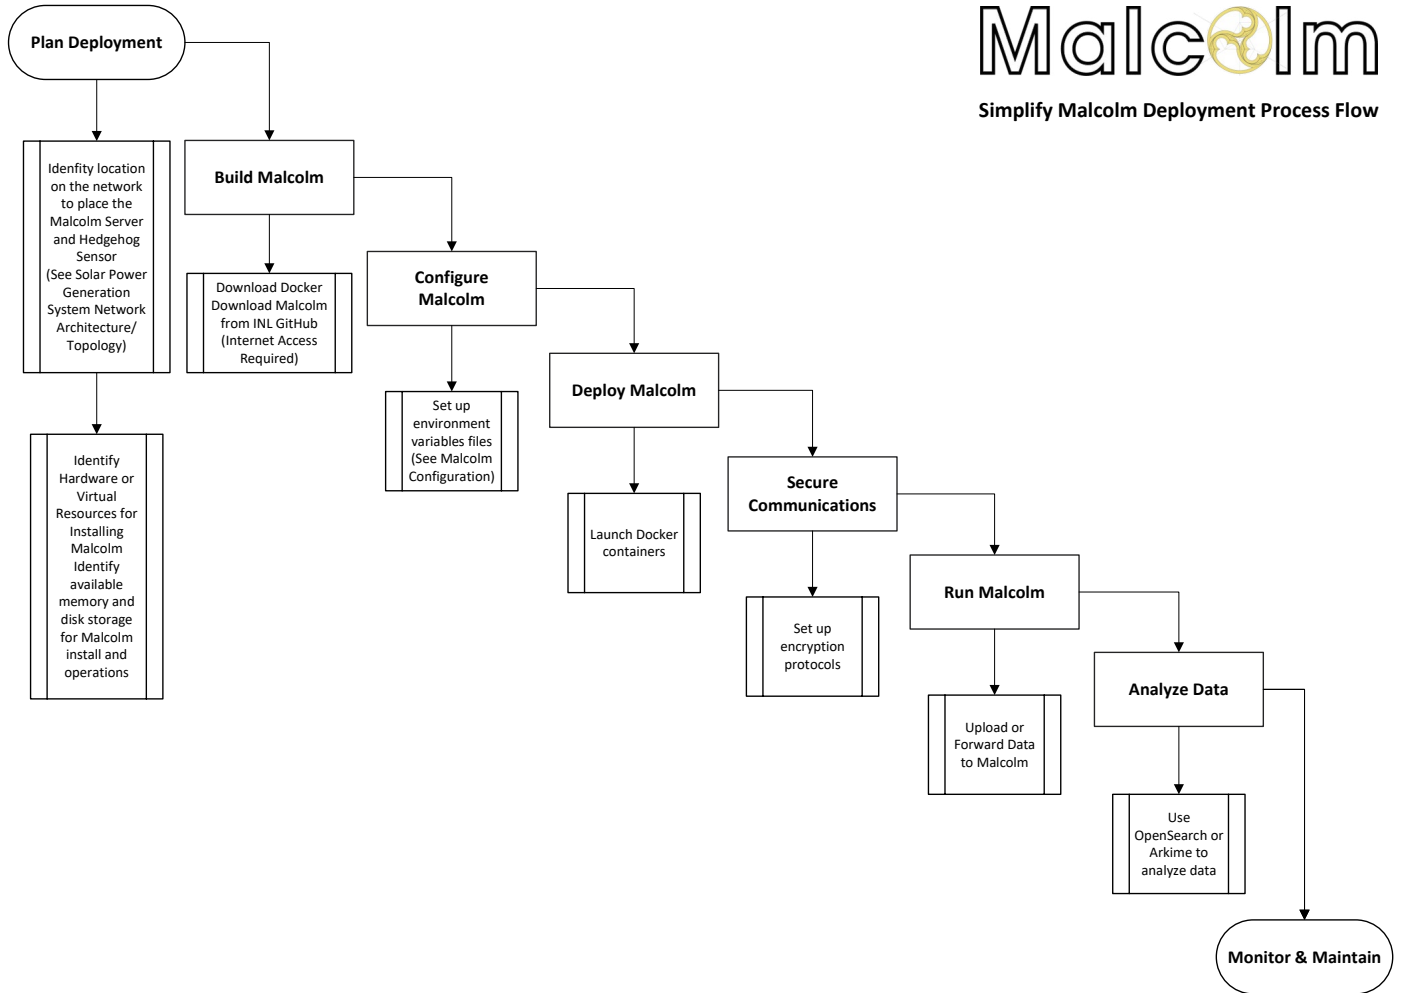

Figure 1. Malcolm deployment process
The Malcolm Deployment process starts with planning and requires Information Technology (IT) and Industrial Control Systems (ICS), or Operational Technology (OT) personnel working together to enable a successful selection of the deployment location and identified of hardware requirements (See Figure 1). IT professionals will be key to supporting the building and configuring of Malcolm prior to deploying the docker containers. Once Malcolm is installed and started, the Malcolm containers can be launched. The next step in this process will be to run Malcolm to begin the passive gathering of network traffic from the ICS/OT devices and systems within the Solar Power Generation system. As network traffic is gathered, both OT and IT personnel can begin to analyze the data and begin using Malcolm for asset identification, anomaly detection, and threat monitoring.